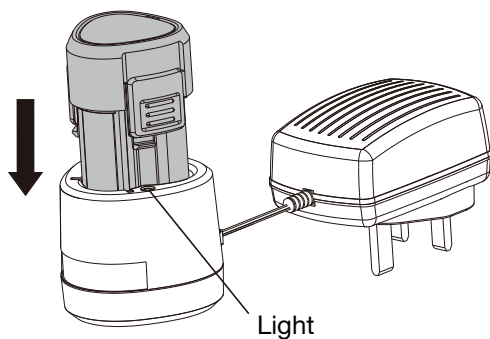

Figure 1-1
- Installing or removing the battery pack from the charger (See Fig. 1-1 & 1-2)